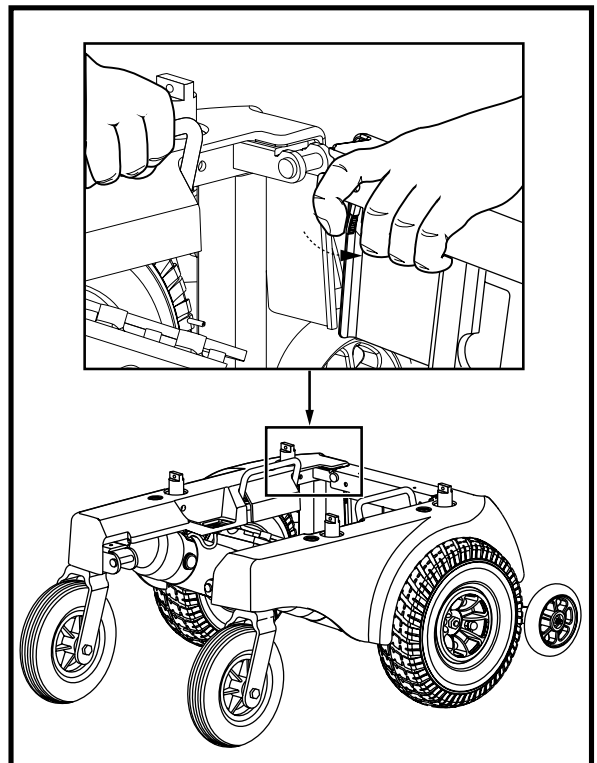

Figure 19. Power Base Frame Removal/Installation
10. Stand behind your power chair and grasp one of the power base frame assembly handles. See figure 19.